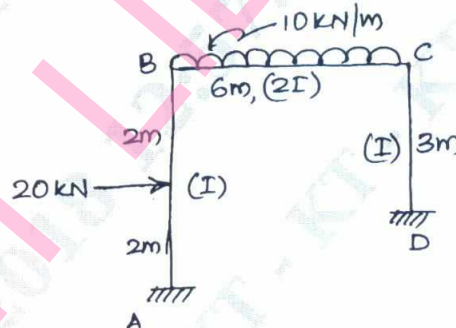

Fig.Q.2
- 2 Analyze the rigid frame shown in Fig.Q.2 by slope deflection method and draw BMD. (16 Marks)